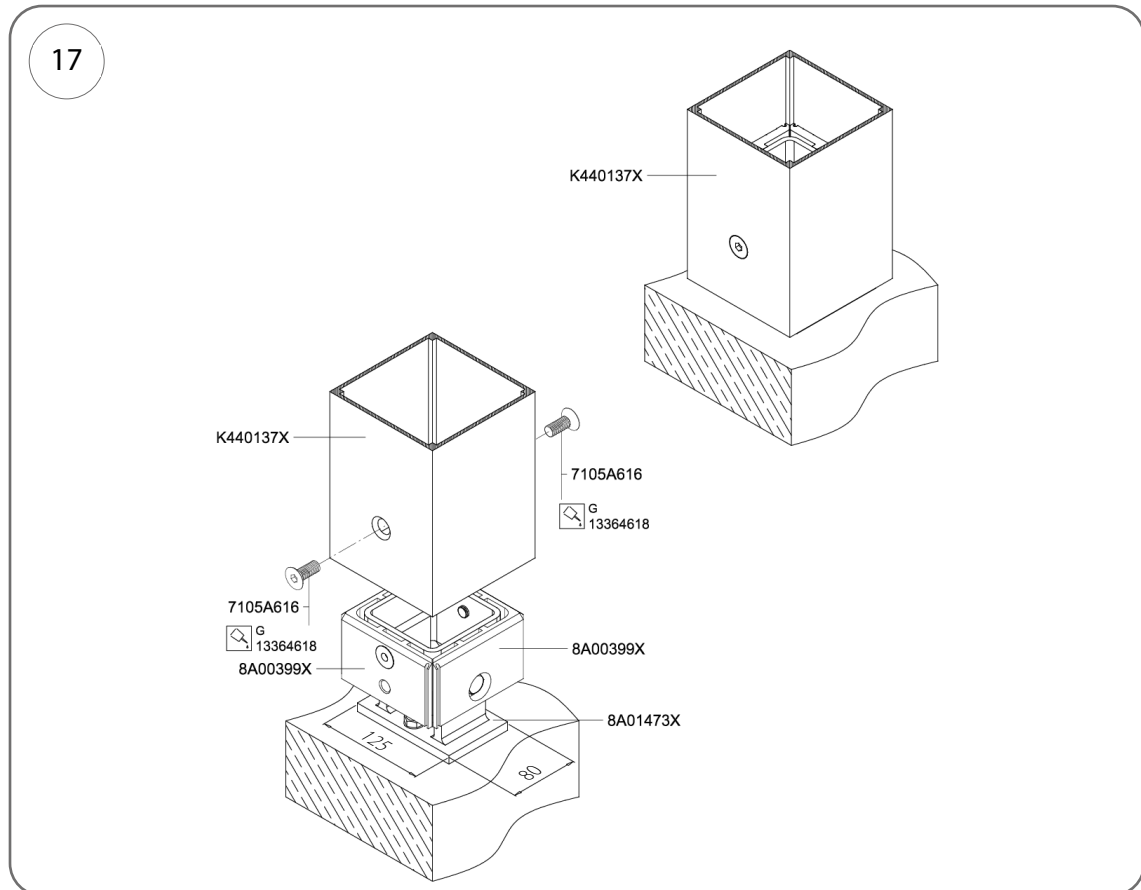
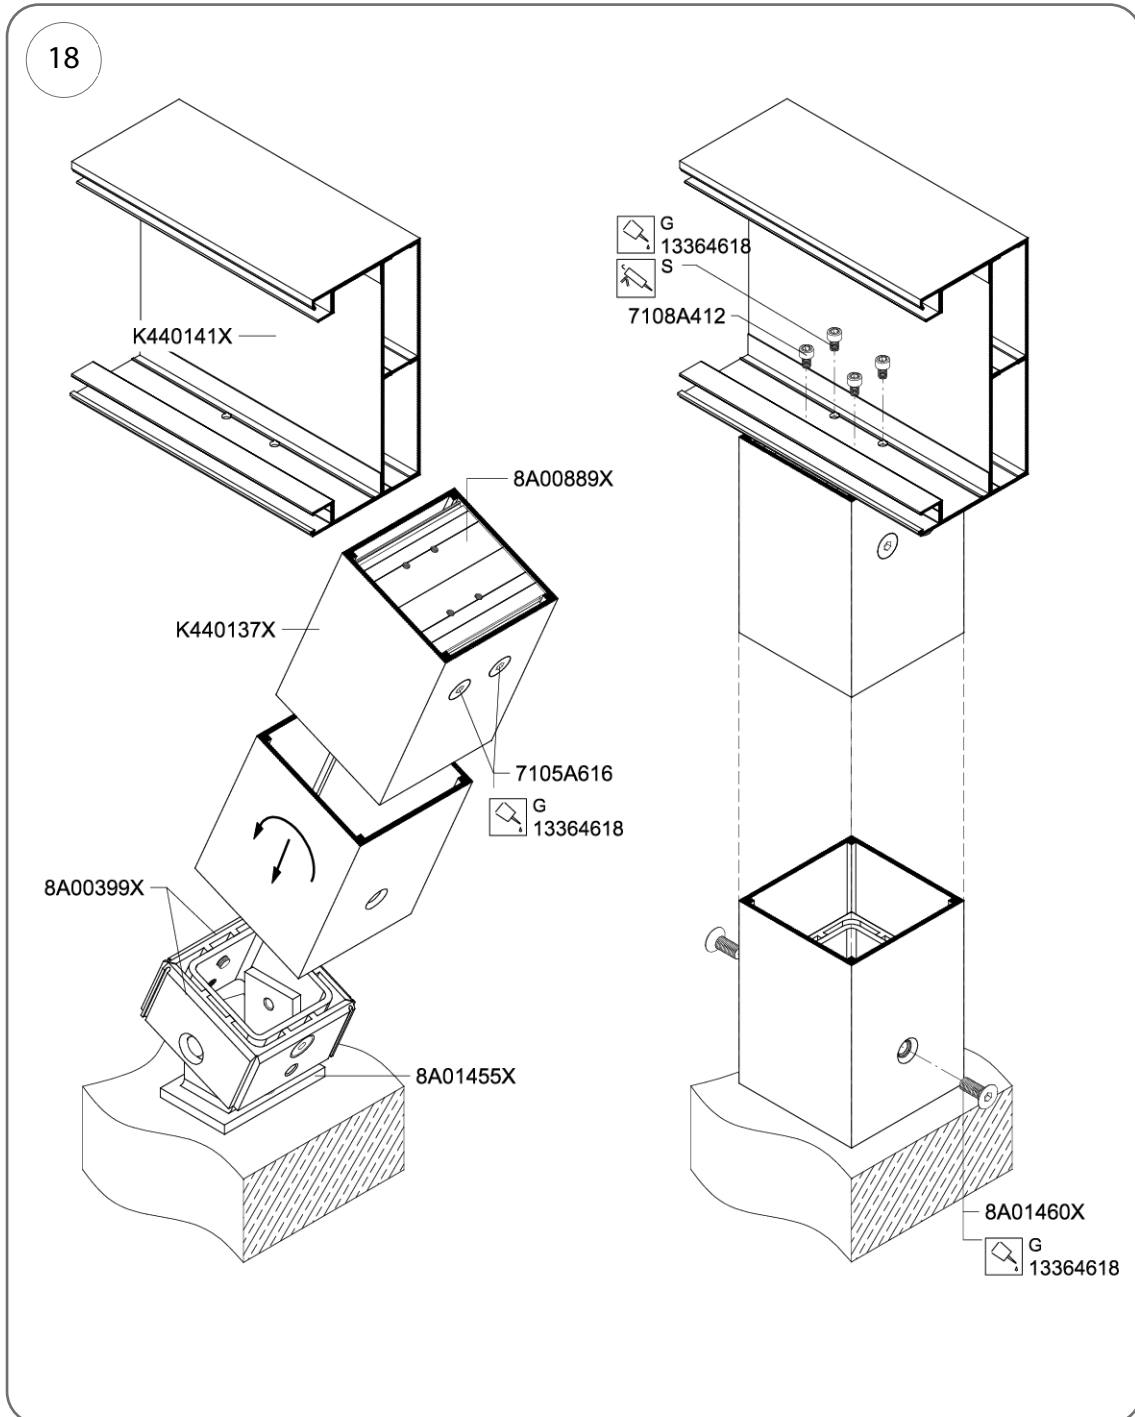

Fig. 17
Fig. 18
5. Carry out the operation of connecting the post to the bracket in accordance with Fig. 17 and Fig. 18.
2. Gradually straighten the intermediate post until the holes in the post connector and in the rafter or purlin align (Fig. 18).